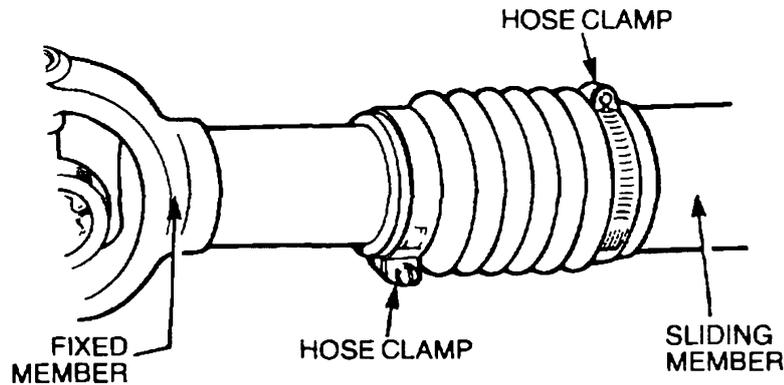

Figure 97 Hose Clamp Positions
- l.** Move the sliding member to the centre of travel and tighten both hose clamps, ensuring they are positioned at 180 degrees to each other (Figure 97).